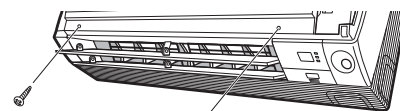

Fig. 1
- 2) Remove the front grille fixing screws (2 screws). (See Fig. 1)